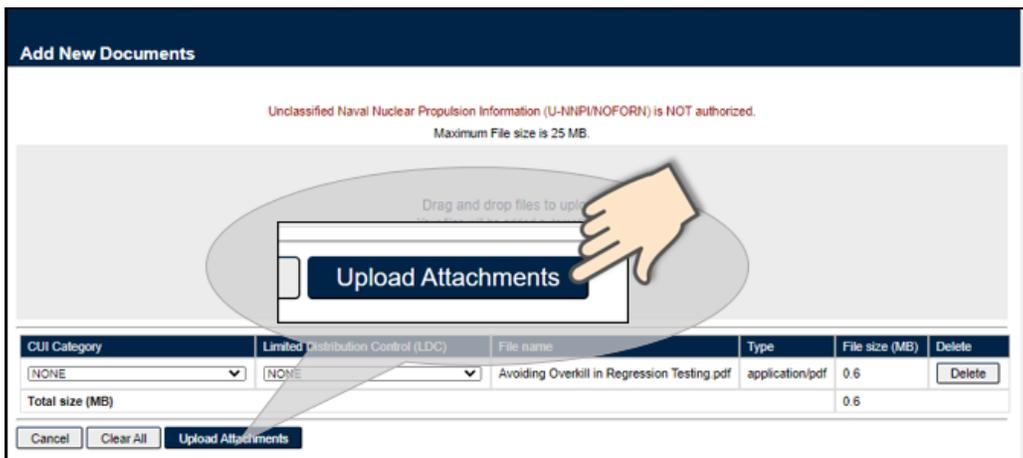

Figure 2.7
- C. You will need to select *Upload Attachments* after selecting the document (see **Figure 2.7**) to confirm the upload.